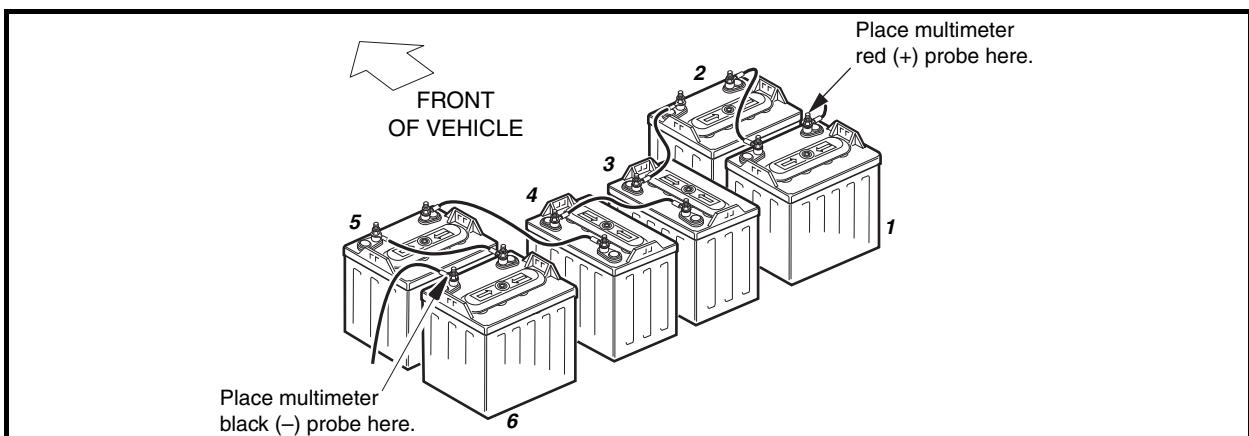

Figure 6-13 Turf 1 and Carryall 1 Battery Configuration
- 4.2. **Turf 1 and Carryall 1:** With a multimeter set to 200 volts DC, measure the voltage of the battery pack between the positive (+) post of battery no. 1 and the negative (–) post of battery no. 6 (**Figure 6-13, Page 6-17**).